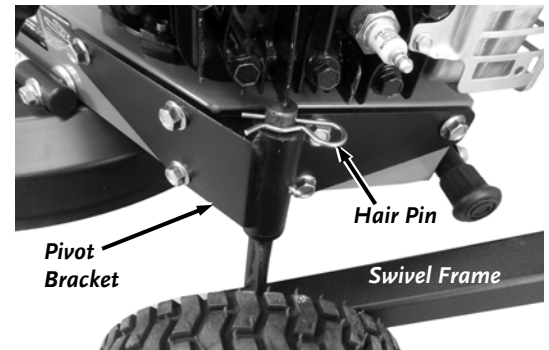

Figure 44
2. Pull the Hair Pin from the Swivel Frame Shaft and remove the Swivel Frame from the Machine (**Figure 44**).